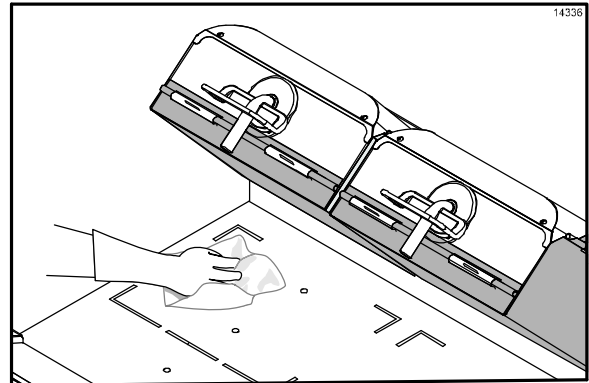

Figure 100
41. Wipe the lower grill surface with a clean, sanitizer-soaked grill cloth. Repeat until no visible soil remains. (See Figure 100.)